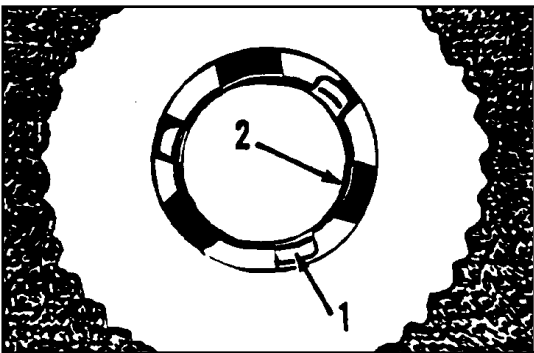

Figure 6
5. Align the lugs (1) on the locking plate into the pad driver adapter openings (2). See figure 6.